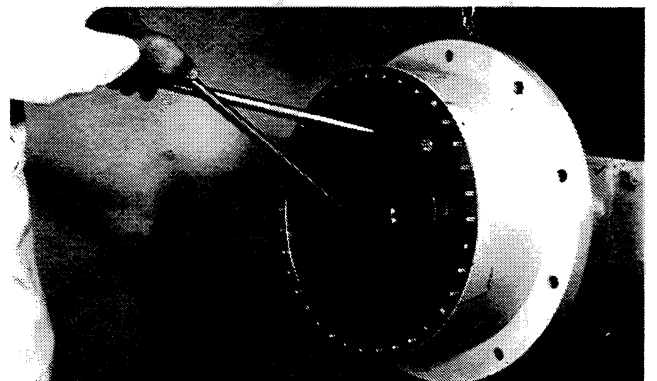

Figure 6:
8. Support the hub using a hoist. This will allow the internal gear hub to move outward. If it does not move freely, bars may be used to apply force (Fig. 6).